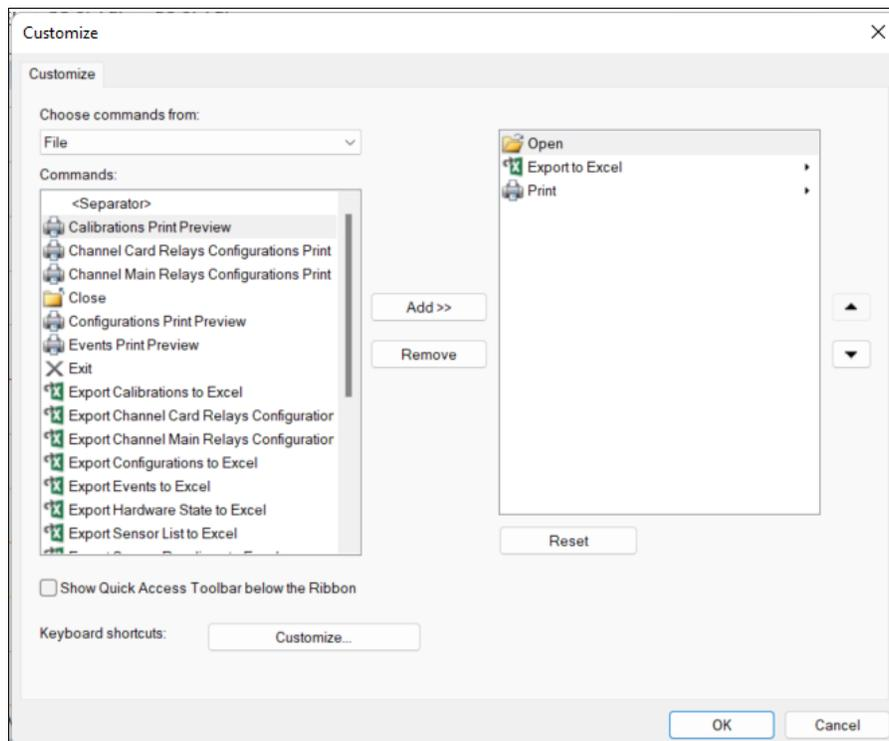

Figure 148: Add/Remove Toolbar Commands
- allows commands to be added or removed from the toolbar (see Figure 148 below)